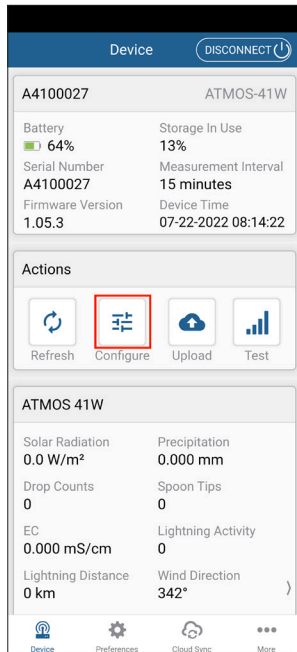

Figure 4 Select Configure
3. Select **Configure** on the Actions panel (Figure 4).